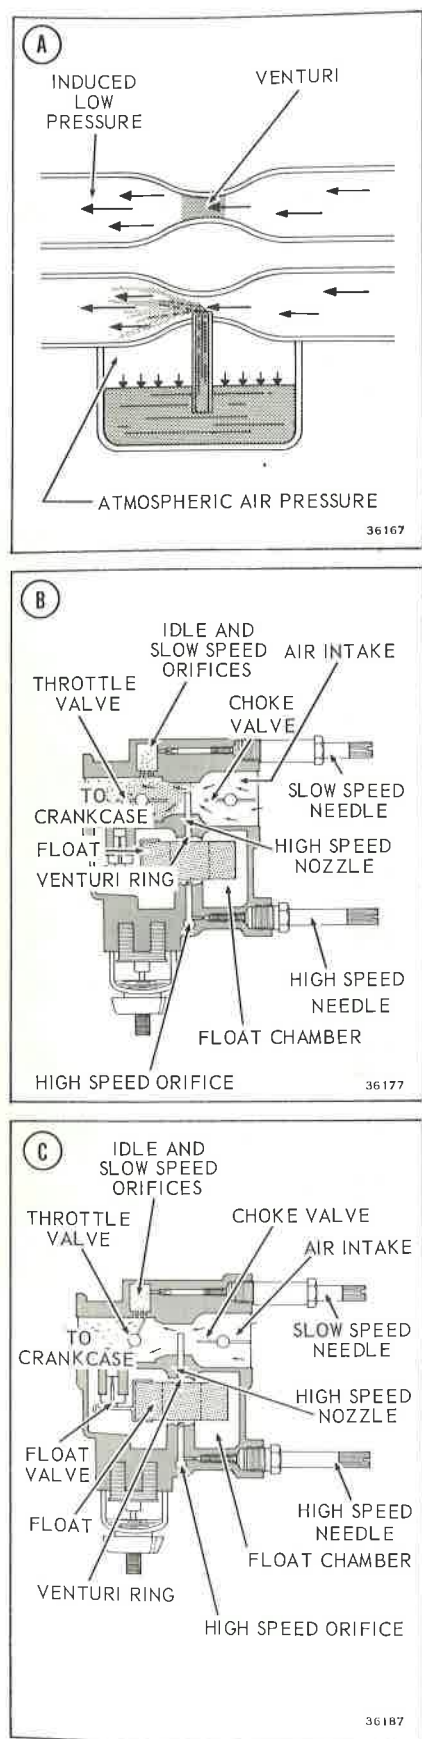
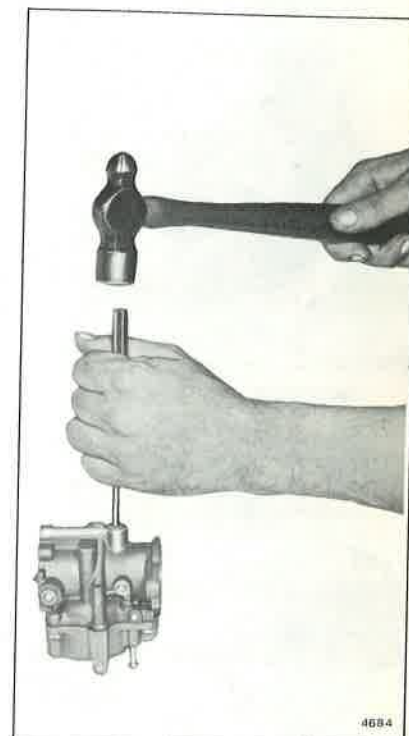

Figure 3-1. Carburetor Principle
Figure 3-13. Re-seating or Installing Core Plug
a. If necessary, remove core plug to clean out slow speed orifice holes. See Figure 3-1. If leakage occurs at a core plug area, a smart tap with a hammer and flat end punch in the center of the core plug will normally correct this condition. See Figure 3-13.